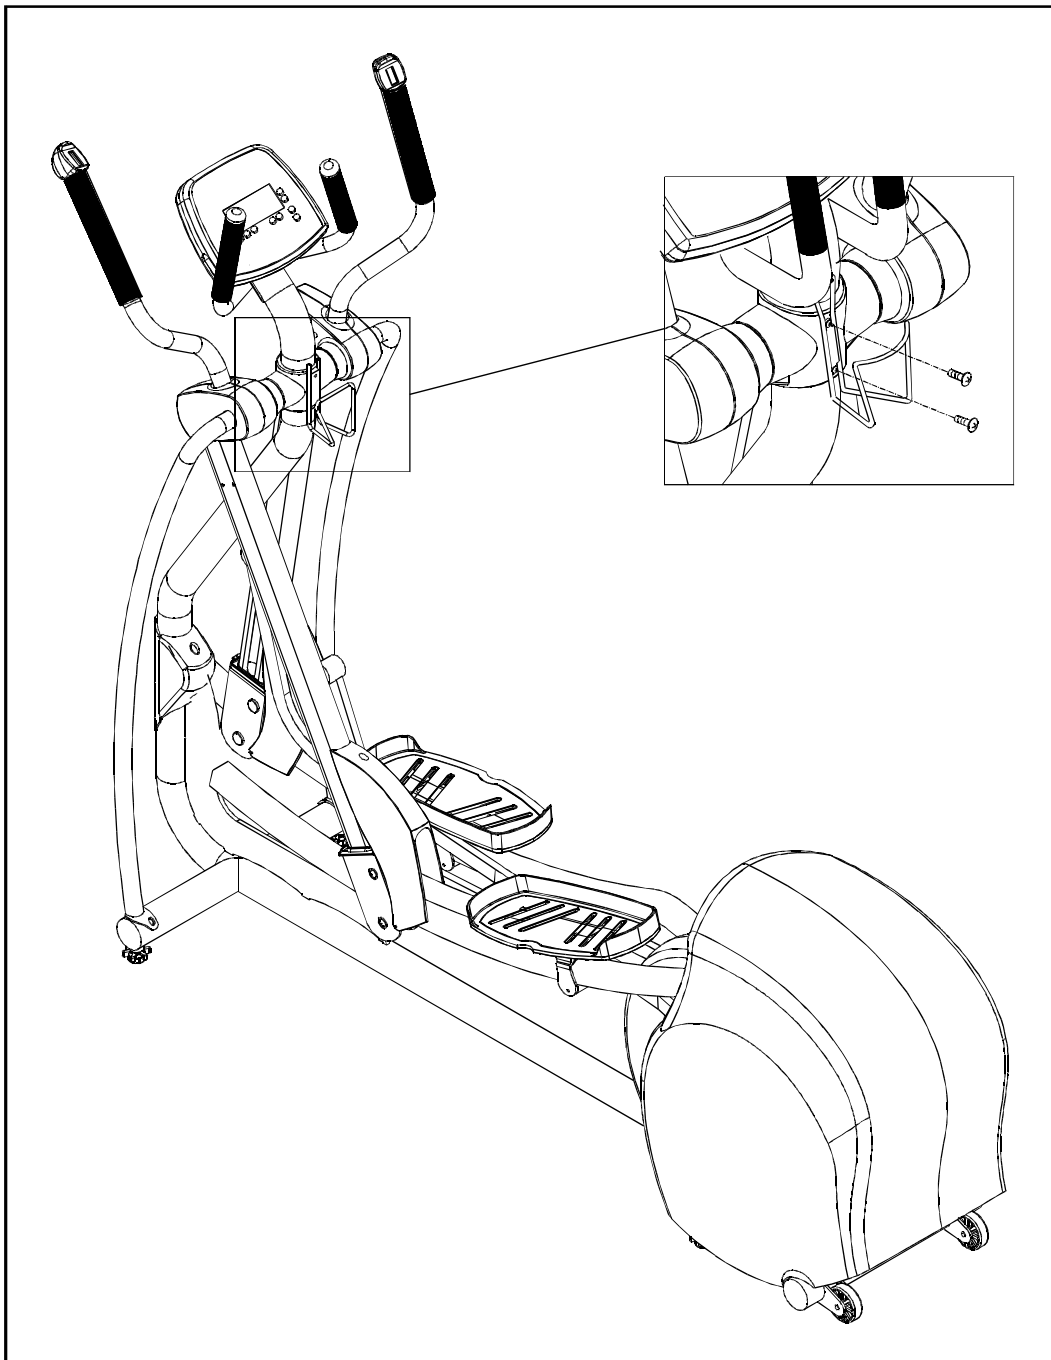

Fig.9
10. Screw the water bottle holder securely. (See Fig.9)